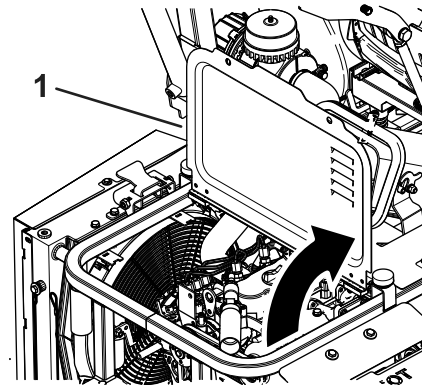

Figure 51
2. Remove the fasteners and raise the cover to access the engine (Figure 51).